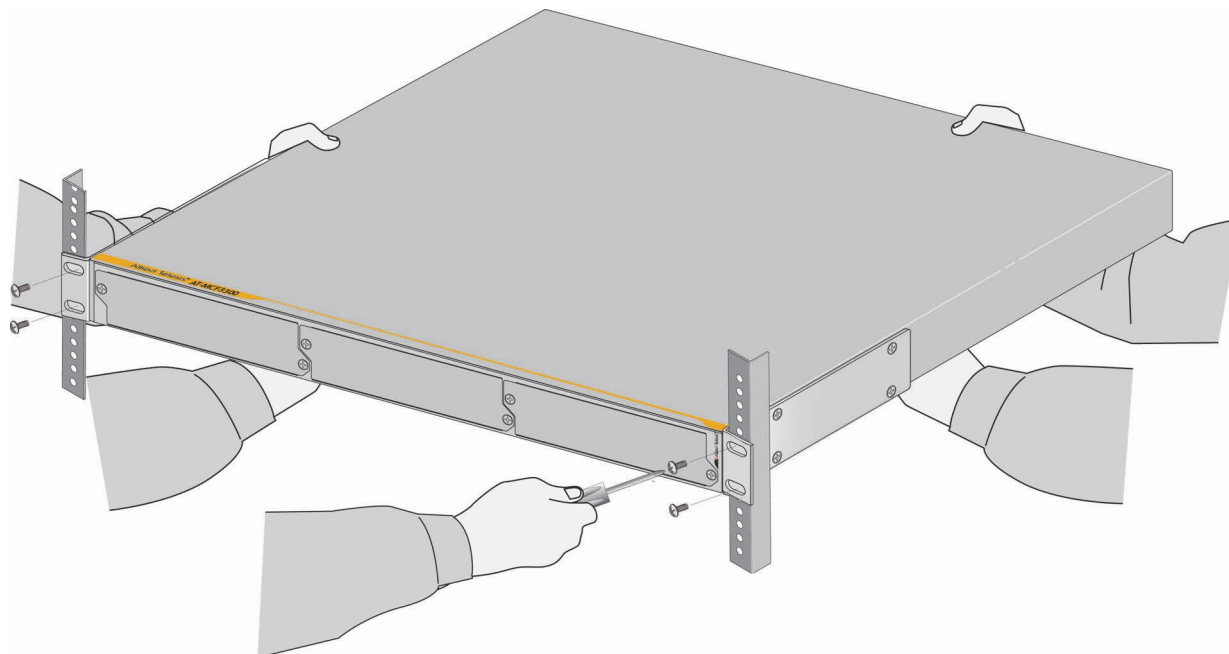

Figure 49. Installing the MCF3300 Chassis in an Equipment Rack
3. Mount the chassis in a 19-inch rack using standard screws (not provided). Refer to Figure 49.